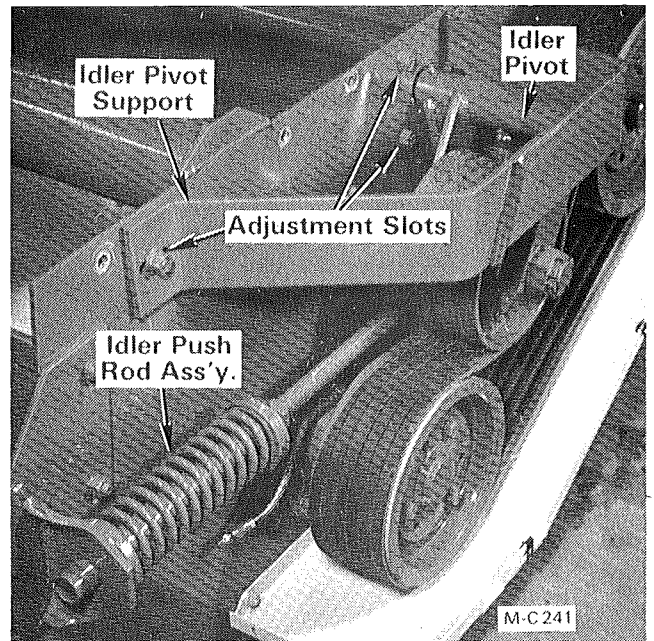

Figure 47 - Idler Push Rod Ass'y. Below S/N 50439
4. Remove the three capscrews, lockwashers and hex nuts securing the idler pivot support to the Shredder body, see Figure 47 & 48. Remove the idler pivot support and pull the idler pulley assembly off of the idler pivot
5. Remove cotter pin (1), castellated nut (2) and idler bolt (6) from the idler arm (5).
7. Pack the new bearing cones (9) with a good grade of wheel bearing grease. Press the bearing cups (10) into the hub, install bearing cones (9) and press in the bearing seals (8).
8. Put a hub spacer (7) on each side of the hub assembly and place the assembly in the idler arm (5). Install idler bolt (6) and castellated nut (2). Tighten the nut just enough to hold the assembly together.
9. Place the idler pulley assembly on the idler pivot. Install the idler pivot support, see Figure 47 & 48. Do not tighten the capscrews until after the idler pulley alignment has been checked.